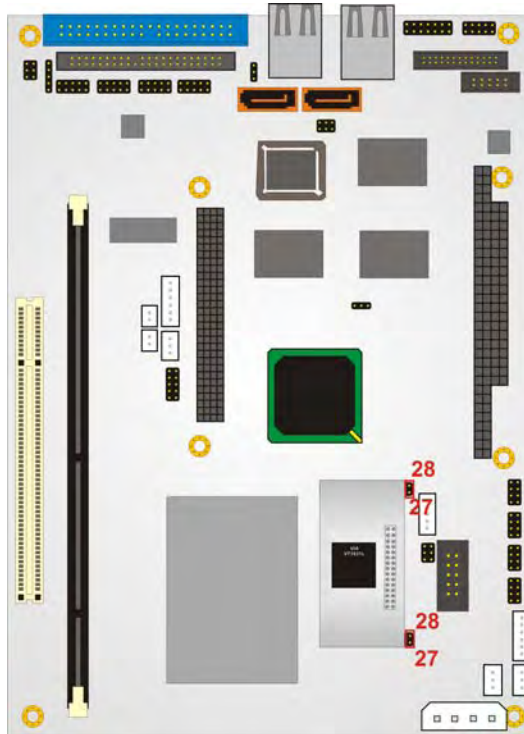

Figure 4-2: 18-bit LVDS 3907720 Connectivity
- Step 3:** Slide the 3907720 onto the connectors. Pin 27 and pin 28 on both the J1 and J3 connector should be visible. See **Figure 4-2**.